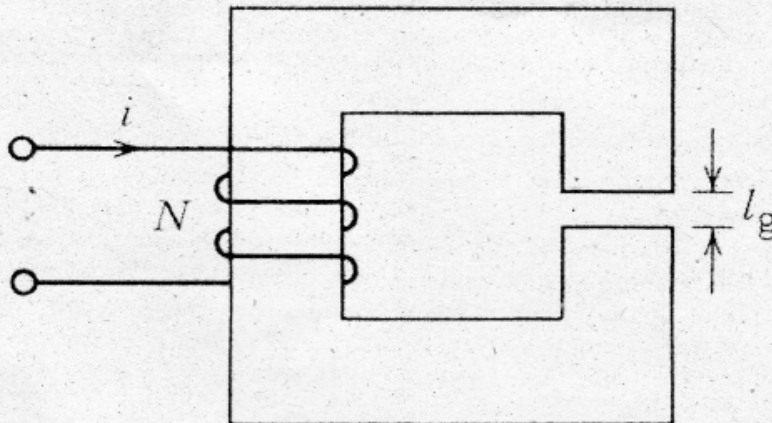

Figure. 1
13. (a) The magnetic system shown in Figure 1 has the following parameters : (13)